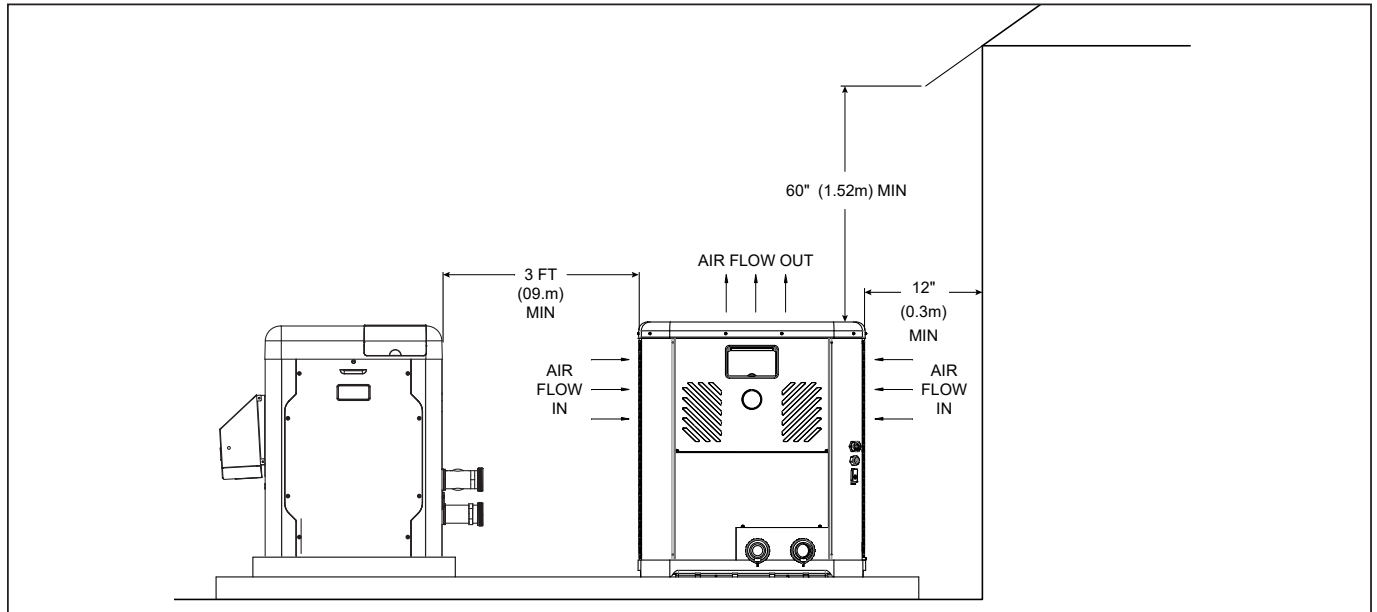

Figure 2. Installation Clearances
- This unit features an ‘up-flow’ discharge for quiet operation. Air is pulled up through the evaporator coil and discharged through the top grill. Allow at least 5 ft (1.5 m) clearance above the unit for unrestricted air discharge. Do NOT install the unit under a porch or deck. Refer to Figure 2 for installation clearances. Allowing cold discharge air to recirculate back into the evaporator coil will greatly reduce the unit’s heating capacity and efficiency. To minimize water piping, locate the unit as close as possible to the existing pool pump and filter.